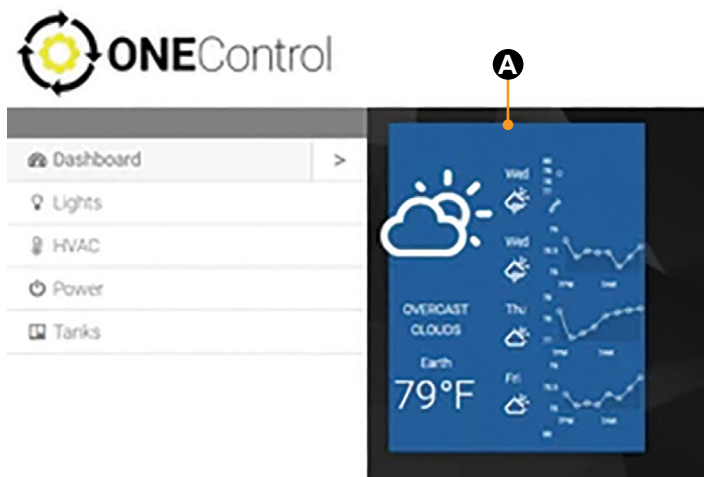

Fig.73
9. Scroll down to bring the dashboard (Fig.73) into view. ConnectAnywhere can now control the unit remotely via the web.